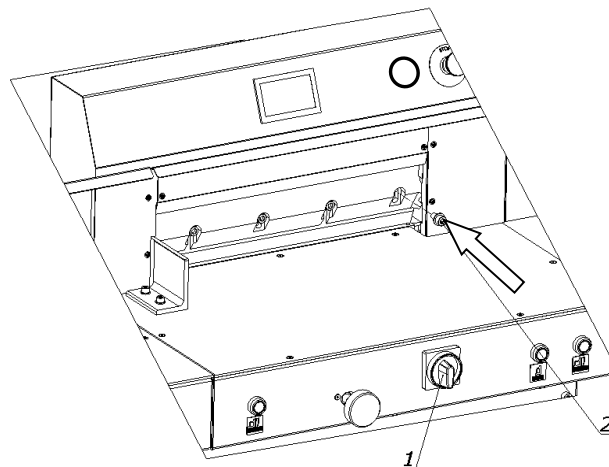

Figure 32a.
8.1.2.11. Screw in the bolt 2 lightly (fig.32a)